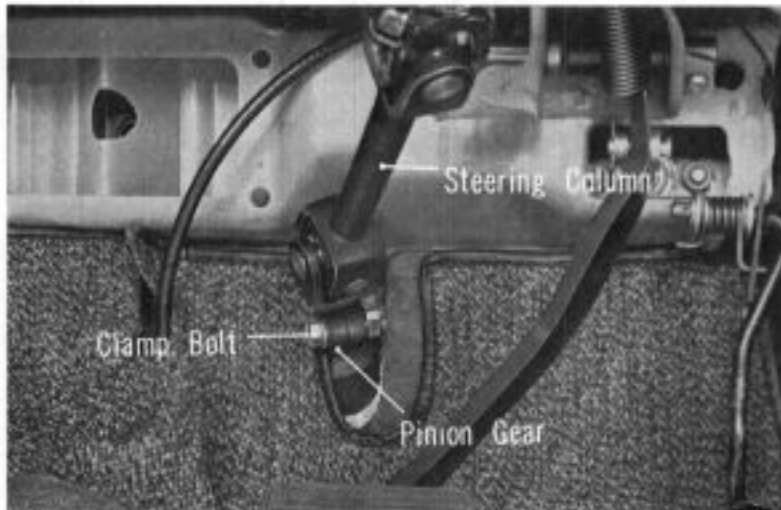

Fig. 7B-234
3. Remove the clamp bolt from the steering column and pinion gear connection. (Fig. 7B-234)